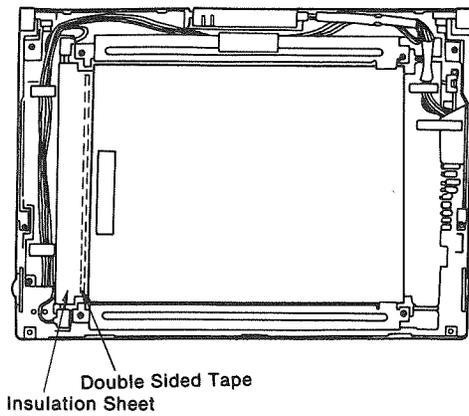

Figure 44
- (7) Stick the insulation sheet as shown in Figure 44.